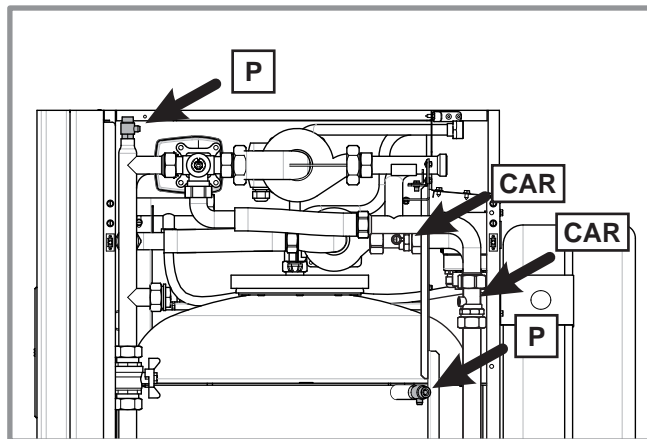

figure 27 - Drains (P) and non return valves (CAR)
- During filling, do not operate the circulator, open all drains on the installation and the Hydraulic module (figure 27) to evacuate the air in the pipes.